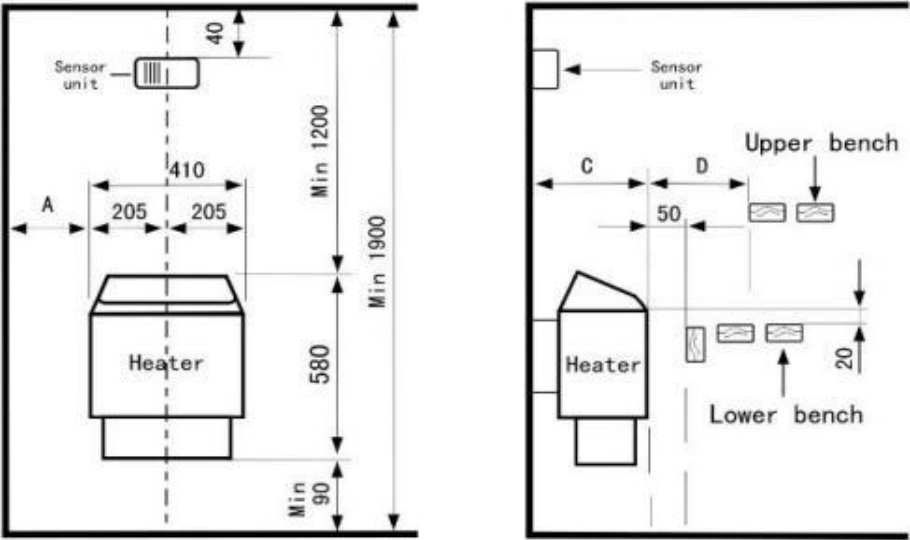
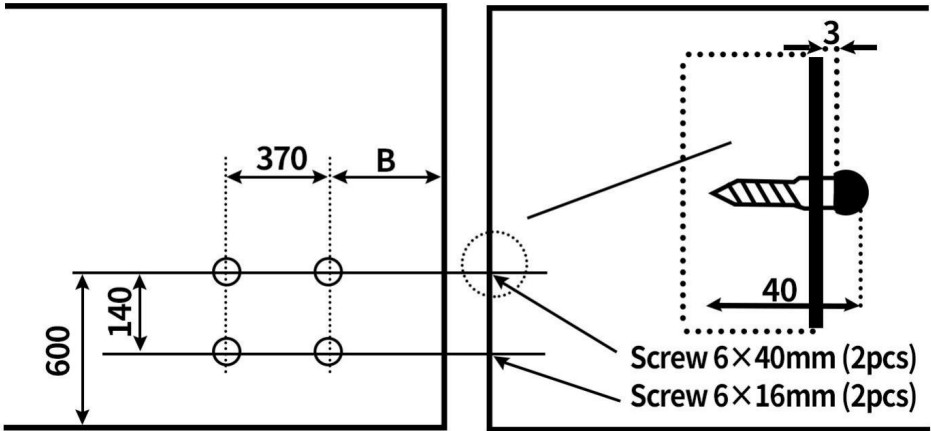

Fig3
Fig4
Temperature sensor and sauna heater must be installed strictly according to the following diagrams. (See Fig3 and Fig4)
1. Fasten the sensor unit with screws to the wall straight over sauna heater inside the sauna room. Check diagram for minimum distance (See fig3).
Please follow the minimum safety distance of sauna heater during installation (See fig3), which is included in installation diagram. Failure to follow these may cause a burn to the wooden wall.